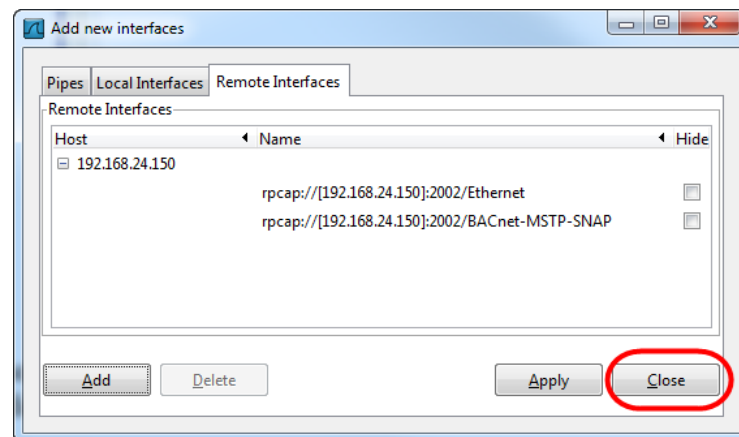

Figure 269: Added new interface to Wireshark.
7. If the connection to the device was established successfully, the **Remote Interfaces** list will be updated with information about all capture ports available on the device as shown in Figure 269.